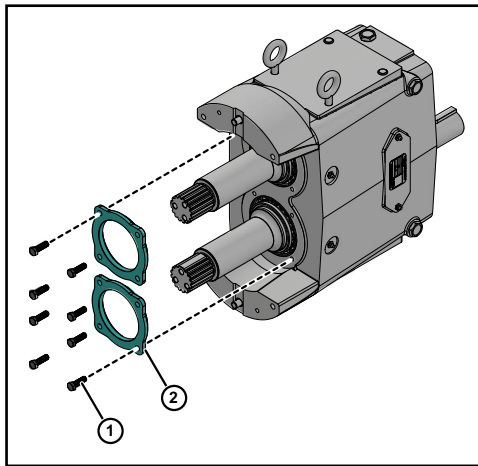
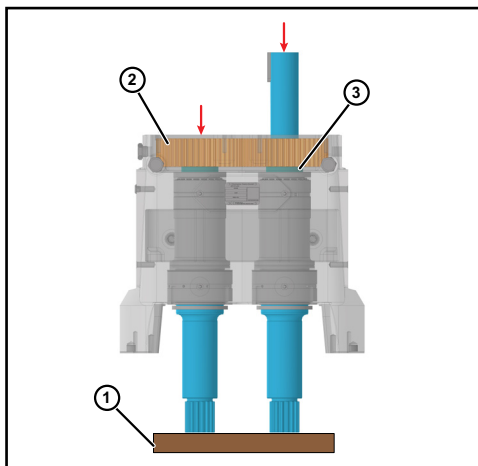

Figure 51 - Remove Bearing Retainers
Figure 52 - Press Shafts from Gear Case
5. Remove the front bearing retainer screws (1) and pull off the bearing retainers (2), as shown in Figure 51. (If a retainer is stuck, leave it in place, it will press out when the shaft is removed.)
6. Remove the silicone sealant from the bearing retainer (2) and gear case.
7. Place the gear case on an arbor press with the liquid end facing down. Protect the shaft ends with a wood or plastic block (1) and press the shafts out of the gear case, as shown in Figure 52.
8. Remove the gears (2) and spacers (3) from shaft. (See Table 8 on page 61 for hydraulic press tonnage required.)
9. Press out and discard the front bearing seals (2) from the front bearing retainers, as shown in Figure 52.